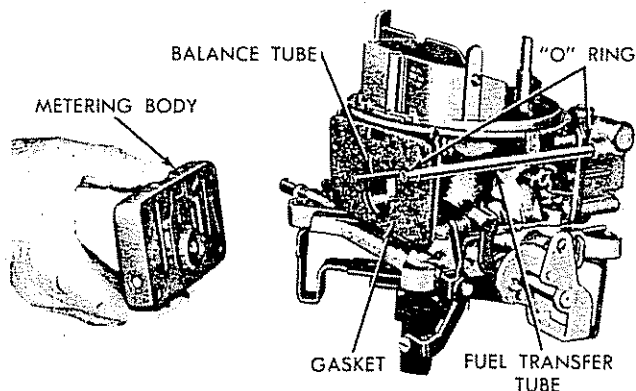

FIG. 40 — INSTALLING PRIMARY METERING BODY (MODEL 4160)
3. Carefully install primary metering body over balance tube (if used) and press firmly on dowels (Fig. 40).